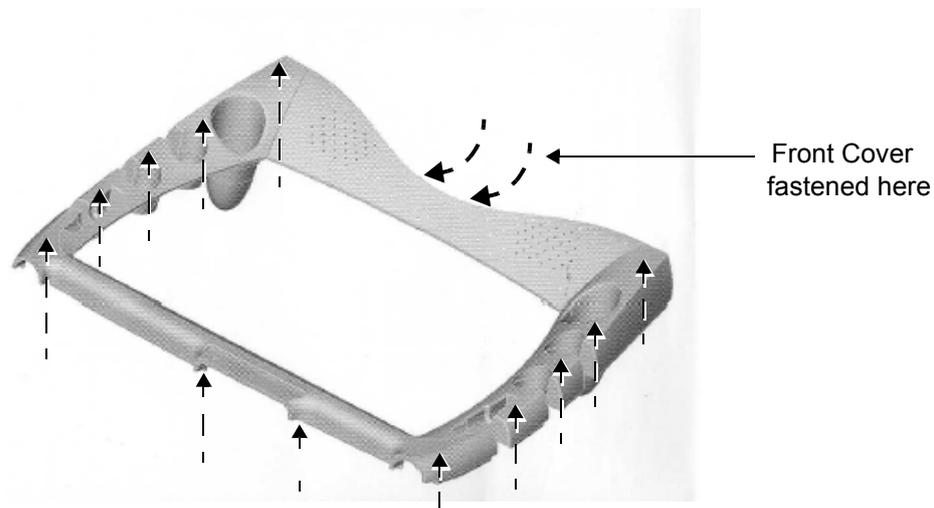

Figure 8-15 Location of Screws on the Control Console Upper (Front) Cover
- 4.) Working from underneath the control console, remove the 12 screws (5 from each side and 2 from the front) that fasten the upper front cover in place (refer to Figure 8-15 below).
- 5.) Underneath the rear of the upper front cover (see Figure 8-15), loosen the 2 screws sufficiently to turn the metal securing plates in order to free the upper front cover from the upper rear cover.
- 3.) Turn the metal securing plates underneath the rear of the upper front cover (refer to Figure 8-15), to fasten the front cover to the upper rear cover and tighten the 2 screws.
- 4) Return and fasten the 12 screws (6 on each side and 2 in the front as shown in Figure 8-15) to secure the upper front cover in place.